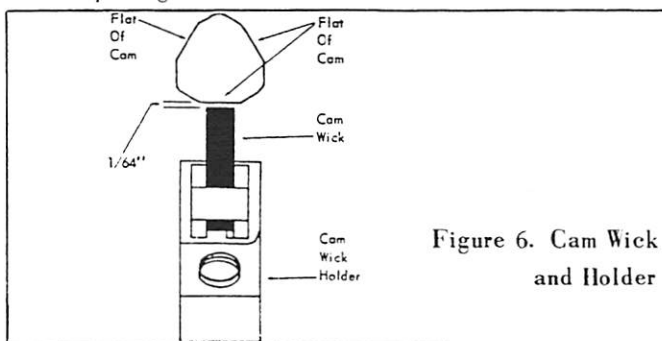

Figure 6. Cam Wick and Holder
- Set cam wick holder so that wick has 1/64" (0.397mm) clearance to flat of cam shaft (between lobes). (Figure 6) Use .015" (0.381mm) feeler gauge.